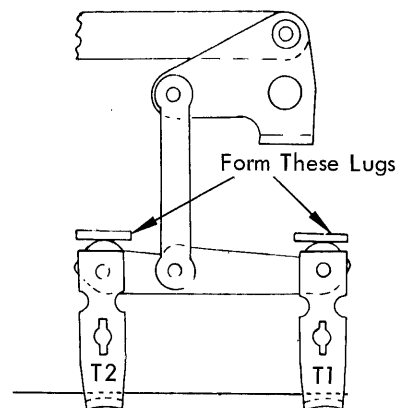
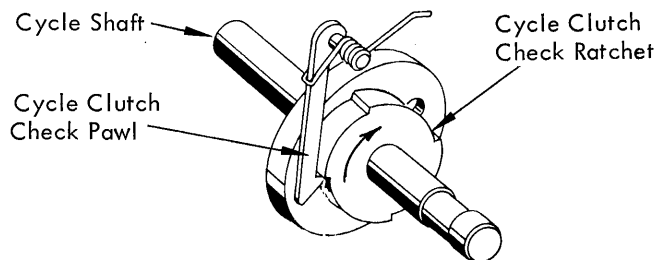

FIGURE 107. Selector Latch Stop Lugs
FIGURE 108. Latches Reset As Check Pawl Drops In
2. Tilt Selector Latches - Form the two stop lugs (Fig. 107) above the tilt selector latches so that the latches will reset simultaneously (under the latch bail) just as the cycle clutch check pawl drops into the notch on the check ratchet at the rest position (Fig. 108).